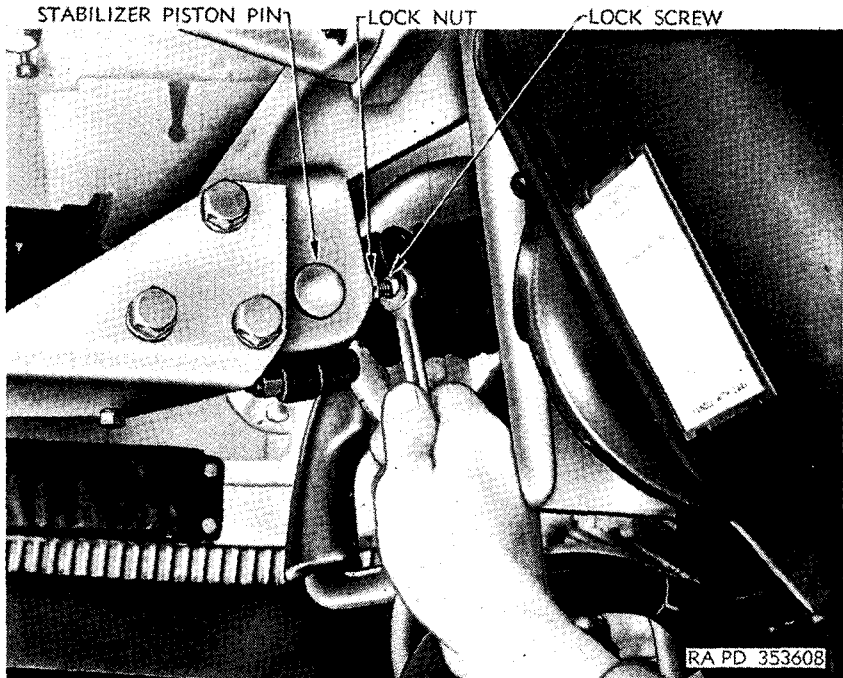

Figure 174. Loosening lock nut and screw on stabilizer cylinder and piston pivot pin.
- (a) To disconnect the cylinder and piston assembly from the gun cradle, loosen the two lock nuts (fig. 174) and lock screws and drift out stabilizer pivot piston pin. Withdraw pin.